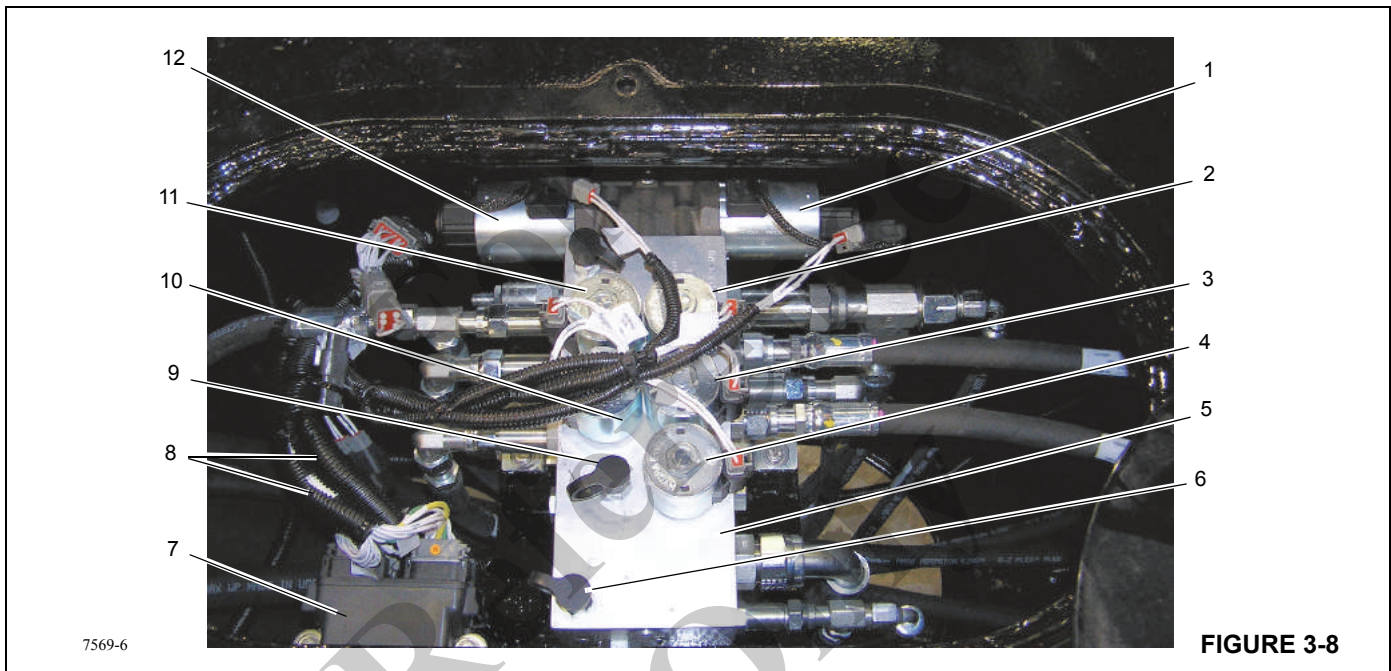

Figure 3-8 Item List
There are two outrigger manifolds located on the crane t-box frame. The front outrigger manifold is mounted in the center of the crane frame between the cab and front outrigger box (Figure 3-8).
**NOTE:** The front and rear outrigger modules (Figure 3-8 and Figure 3-9) are not serviceable; contact Manitowoc Crane Care Customer Service with any service or repair questions about the module.
The solenoids on the front outrigger manifold (Figure 3-8) control the selection of the front outrigger components, the optional single front outrigger (SFO) (if equipped) and the extend and retract functions of front outrigger components.
- The single front outrigger (SFO) solenoid (4) extends or retracts the SFO when energized. Any time the retract switch on the outrigger control is depressed, the SFO is the first to retract.
- The extend solenoid (12) controls the extend functions for all outrigger components.
- The retract solenoid (1) controls the retract functions for all outrigger components.
- Solenoids (2) (3) and (10) (11) control the front outrigger components. See Figure 3-8 for solenoid identification.
- The lower front module #1 and module #2 are mounted to stack (7) and are connected to the lower frame main wiring harness (8) providing outrigger function data to the main server module.